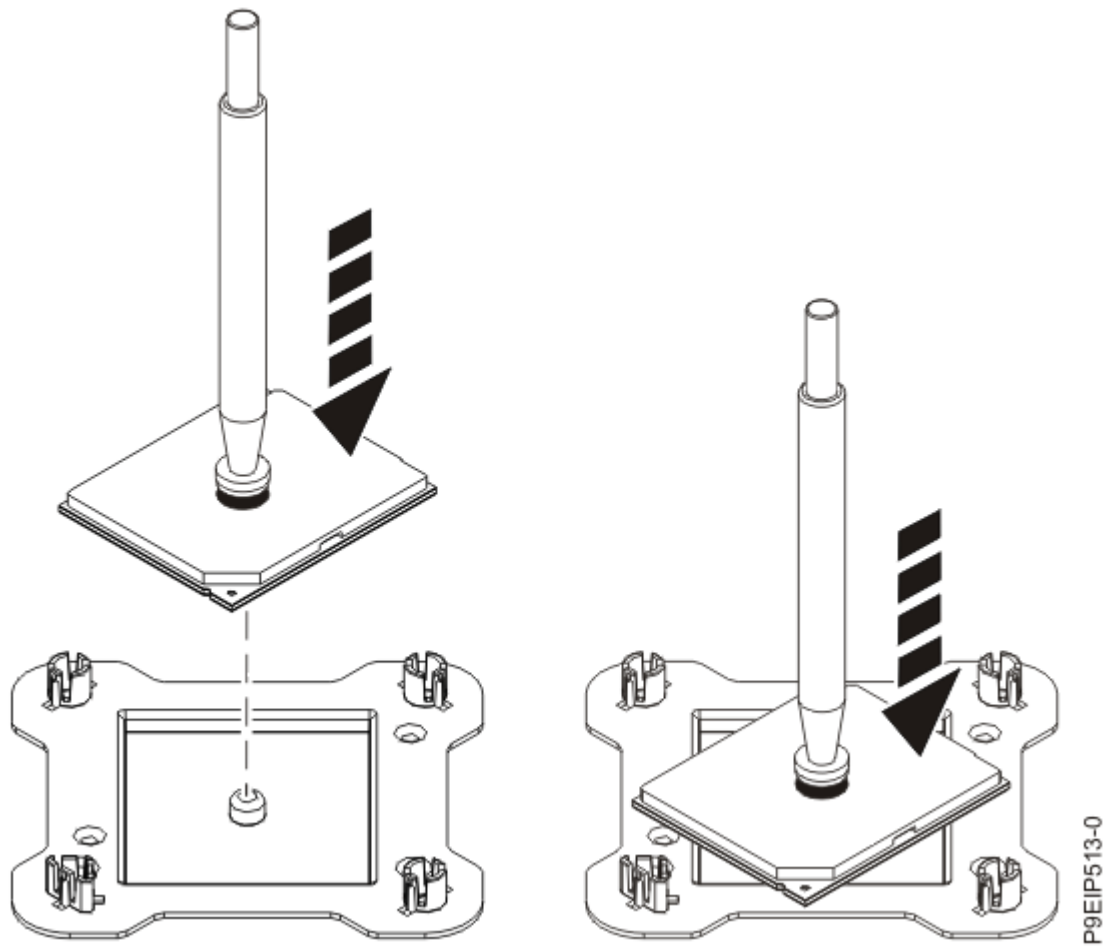

Figure 55. Placing the system processor module at an angle on the top cover of the packaging
9. Holding the vacuum pen, lift the pen and system processor module from the socket. Place them at an angle on the top cover of the system processor module packaging as shown in Figure 55 on page 62. Setting the system processor module at an angle on the top cover of the system processor module packaging will make it easier to pick up and place in the packaging after you replace the system processor module.